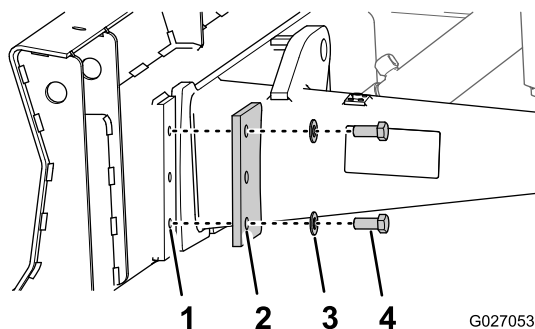

Figure 34
3. Assemble the backfill blade to the mounting plate with 2 retainer plates and 4 bolts (5/8 x 1-1/2 inch), and 4 washers (5/8 inch) and tighten the bolts until they are hand tight (Figure 34).